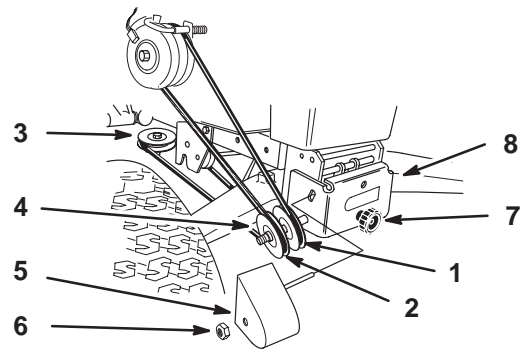

Figure 29
2. Turn knob on pulley assembly clockwise to loosen belt (Fig. 29).
3. Remove locknut and belt cover from idler assembly. Remove belt from top center mower pulley (Fig. 29).